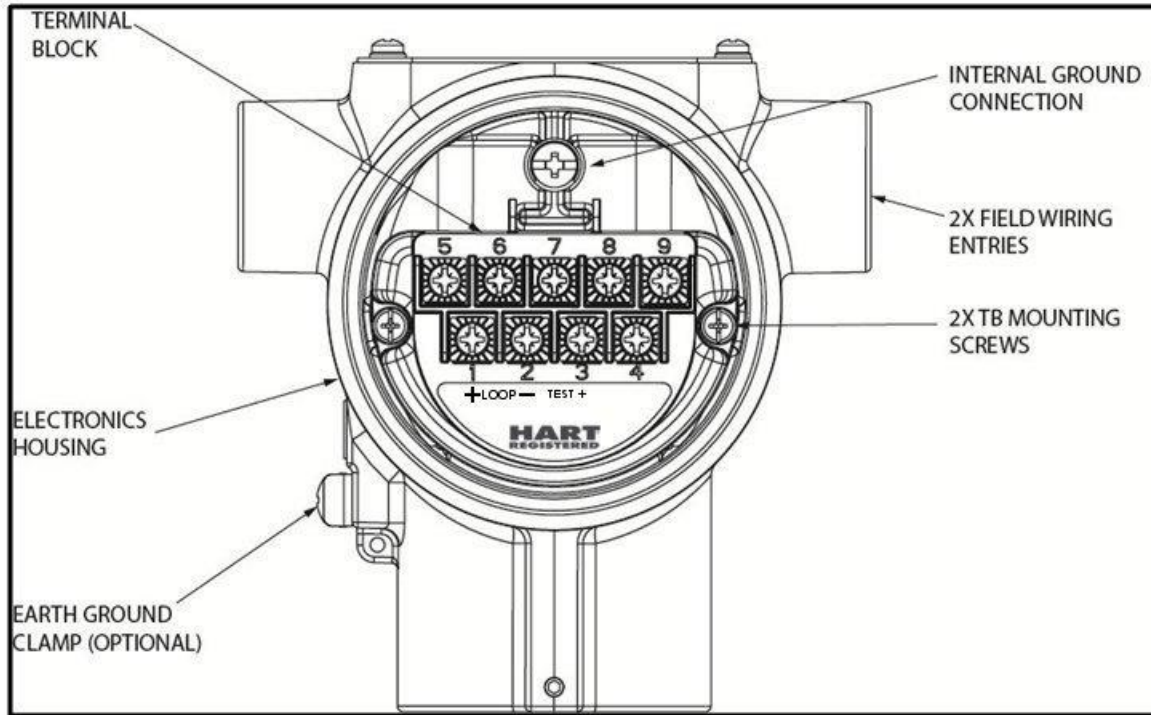

Figure 12 – Transmitter 9-Screw Terminal Board and Grounding Screw
As shown in Figure 12, each transmitter has an internal terminal to connect it to earth ground. Optionally, a ground terminal can be added to the outside of the Electronics Housing.
1. See Figure 12 above, for parts locations. Loosen the end cap lock using a 1.5 mm Allen wrench.
Connect a wire from the Earth Ground Clamp or to the Internal Ground Connection (see Figure 12) to Earth Ground to make the protection effective. Use a size 8 AWG or (8.37mm²) bare or green covered wire for this connection.
For ungrounded Thermocouple, mV, RTD or ohm inputs connect the input wiring shield(s) to the Internal Ground Connection shown in Figure 12.
For grounded Thermocouple inputs, connect the Internal Ground Connection shown in Figure 12 to the same earth ground as used by the thermocouple.